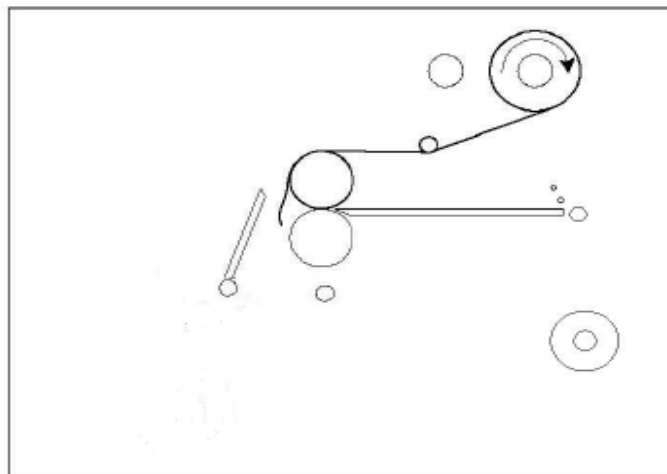

Fig. 21
This procedure describes how to load the upper roll of film onto the laminator. Figure 21 uses poly-in film and the upper rear unwind/rewind position for illustration purpose.
1. Turn the **Power ON/OFF** to on (I). Set top heat temperature for the film type you are using.
4. Pull the top roll of film down under the idler bar and allow to drape over the top heat roller (Figure 21).